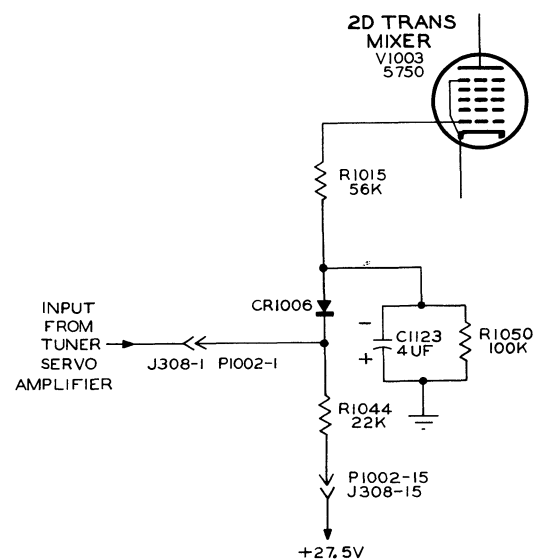

Figure 4-42. Tuner Muting Circuit, Simplified Schematic Diagram
Relay K1001, located in the tuner unit, performs several functions, as shown in figure 4-42. One set of contacts grounds the receiver input circuit during the transmit position. A second set of contacts connects the cathode of second r-f amplifier V1009 directly to ground for increased gain and opens the cathode circuit of first receiver mixer V1005 and first r-f amplifier V1008. A third set of contacts opens the cathode circuits of second receiver mixer V1006. The fourth set of contacts removes avc voltage from the grid of V1009 and transfers the grid to ground.
4.9.11.4 TUNER MUTING CIRCUIT. Refer to figure 4-42. Under certain conditions, the r-f tuner unit could supply drive to the power amplifier and operate the Antenna Tuner during channeling operations if precautions were not taken to prevent this. This would allow the Antenna Tuner to tune up on a random frequency and then break the automatic keying circuit of the Transceiver resulting in improper tuning. To prevent this from occurring, the second transmitter mixer, V1003, is biased to cutoff when the tuner servo amplifier is in operation.